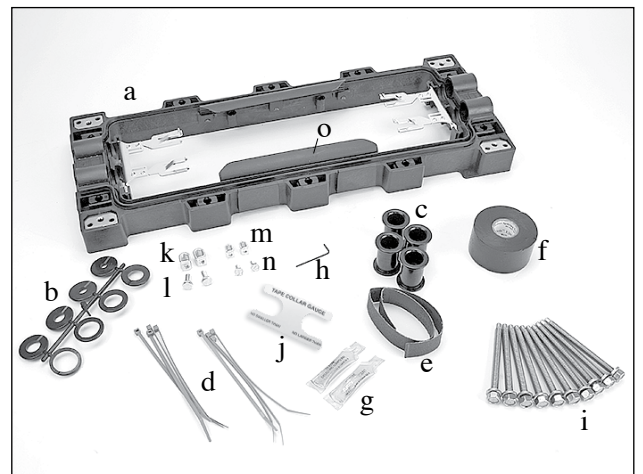

Figure 6
4.6 3M™ Cable Addition Kit 2181-LS and 2181-LS/FR Contents (Figure 6):